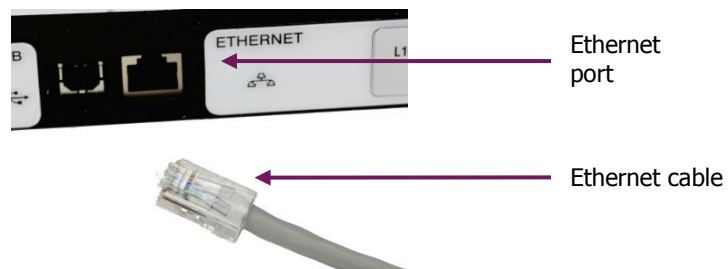

Figure 23 Ethernet cable connected to the ETHERNET port
2. Plug one end of an Ethernet cable into the ETHERNET port on the rear of the instrument (Figure 23).